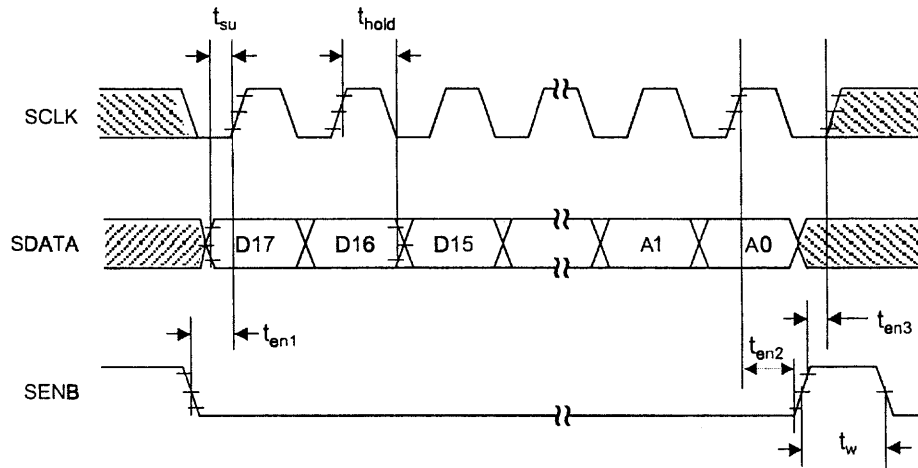
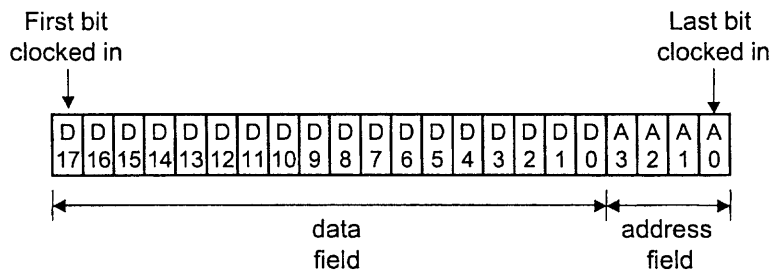

Figure 3. Serial Interface Timing Diagram
Figure 4. Serial Interface Format
2. Timing is not referenced to 50% level of the waveform. See Figure 3.
A timing diagram for the serial interface is shown in Figure 3 on page 7. Figure 4 on page 7 shows the format of the serial interface.